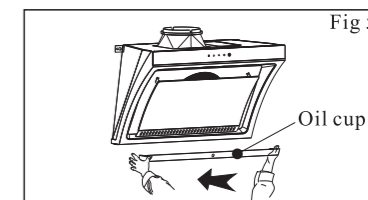

Fig 5
- b. Pull out the oil cup in level then clean it. (Fig 5)